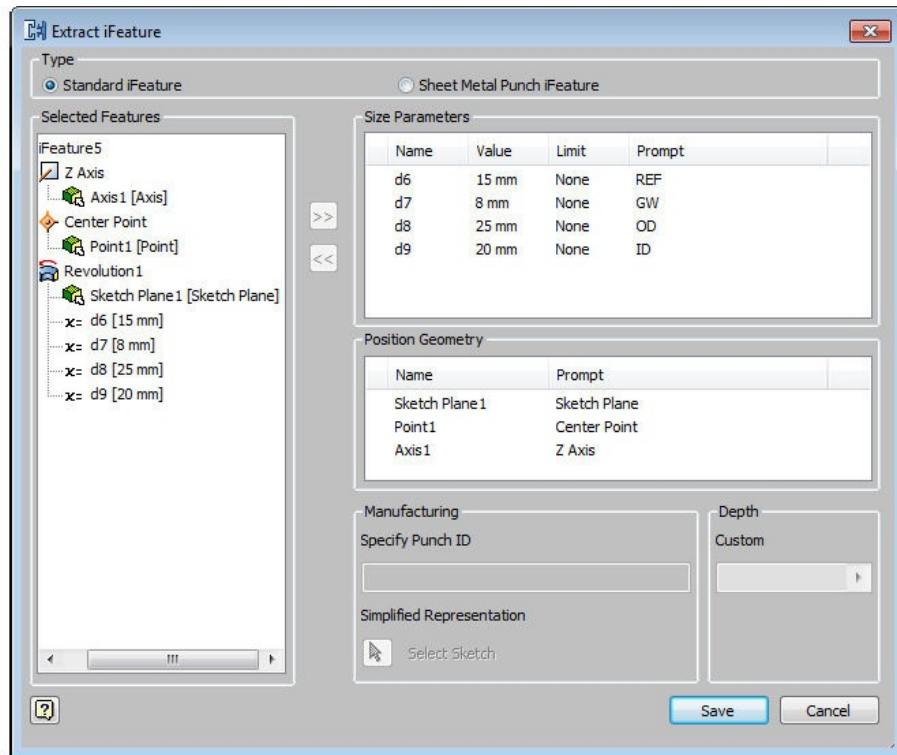

Figure 17-36 The **Extract iFeature** dialog box
11. Similarly, change the fields corresponding to **Point1** and **Axis1** to **Center Point** and **Z Axis**, respectively in the **Prompt** column of the **Position Geometry** area. After changing the prompts, the **Extract iFeature** dialog box appears, as shown in Figure 17-36.